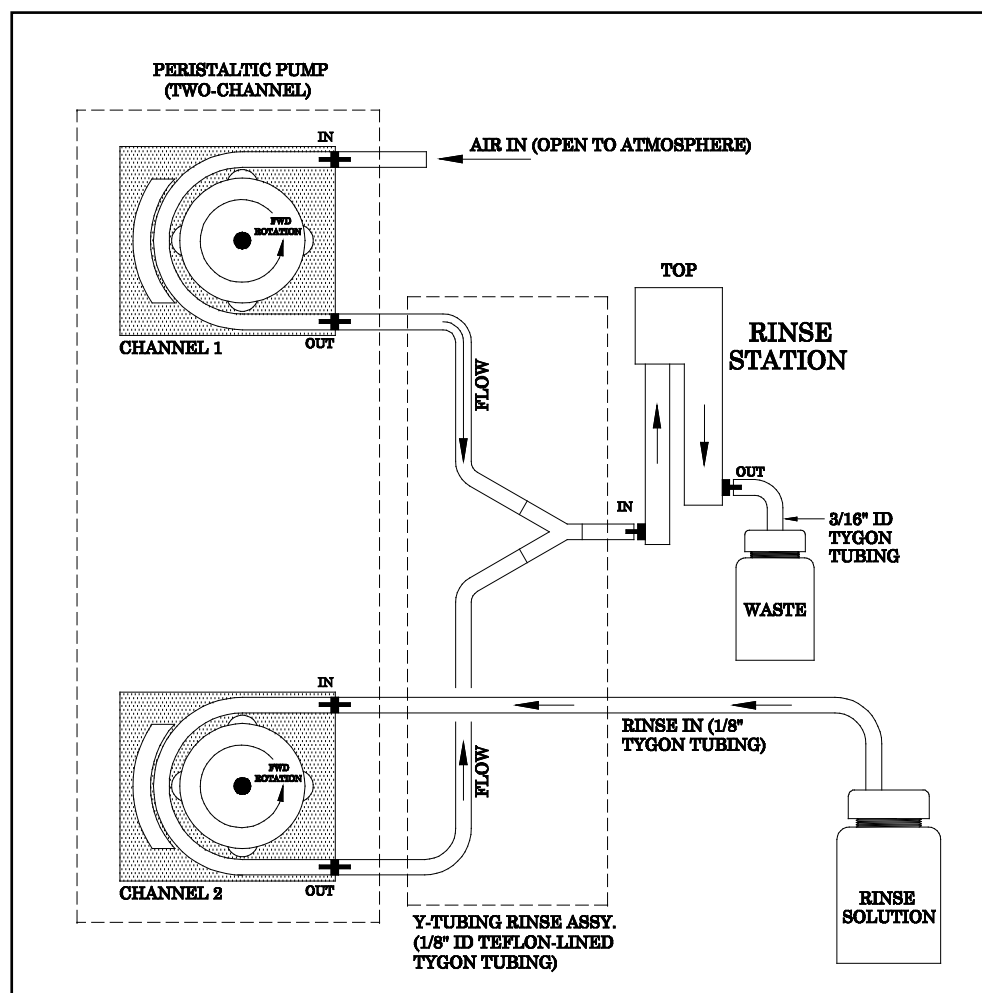

Figure 1-47 Rinse Tubing Diagram
- If you are connecting the ASXPRESS system to an ASX-520HS (high speed autosampler), it will have the large-bowl rinse station installed, and you will need to replace it with the standard-bowl rinse station (supplied with the upgrade kit), as well as to make the tubing modifications (**Figure 1-46** and **Figure 1-47**) as are outlined in this section.
6. Replace the peristaltic pump input rinse tubing (suction tubing connecting the input of the peristaltic pump to a rinse solution supply container) with a single length of tubing, found in the completion kit, as shown in Figure 1-46 and Figure 1-47. Leave one peristaltic pump channel input connection open to the atmosphere to allow air to be drawn in through one channel, while rinse solution is drawn in through the other channel (Figure 1-47).
6. Replace the peristaltic pump input rinse tubing (suction tubing connecting the input of the peristaltic pump to a rinse solution supply container) with a single length of tubing, found in the completion kit, as shown in Figure 1-46 and Figure 1-47. Leave one peristaltic pump suction channel input open to the atmosphere to allow air to be drawn in through one channel, while rinse solution is drawn in through the other channel (Figure 1-47).